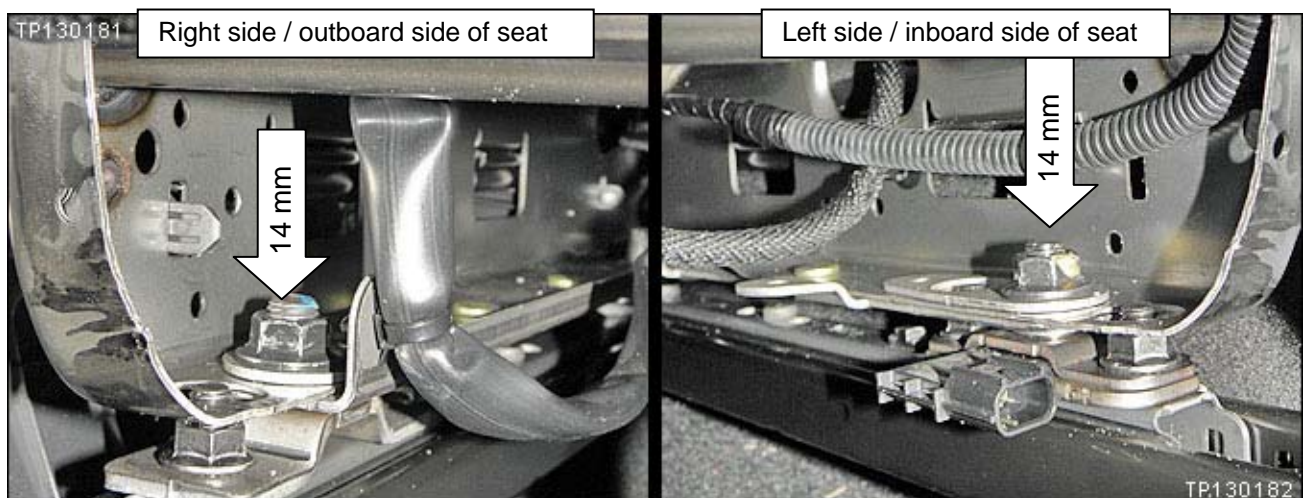

Figure 7
- From under the front of the passenger seat, remove the 14 mm nuts from the front of the seat frame (see Figure 7).